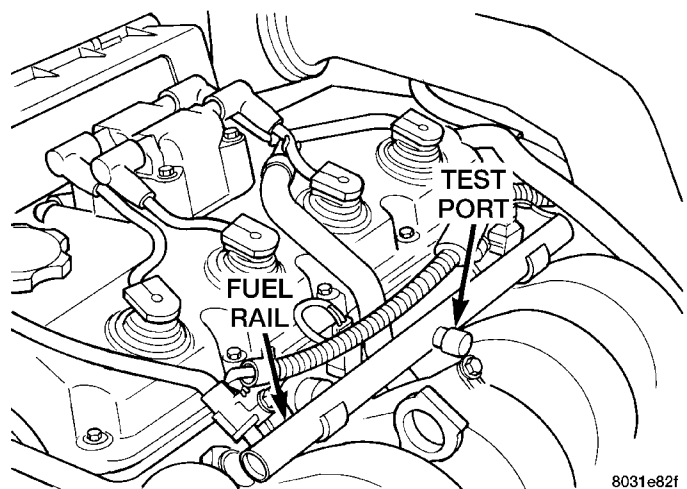

Fig. 11 Fuel Pressure Test Port
- (4) Remove the protective cap from the fuel pressure test port on the fuel rail (Fig. 11).